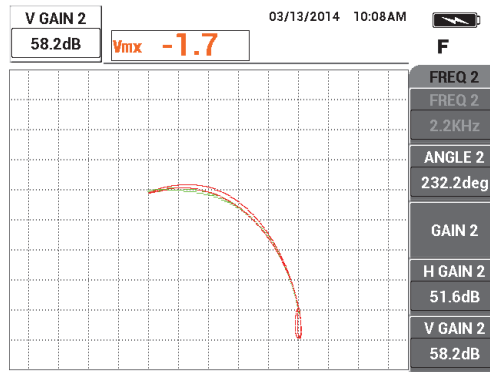

Figure 5-126 Adjusting the vertical amplitude of the frequency 2 signal
- Press the GAIN key (**dB**) again, and then increase the vertical amplitude of the frequency 2 signal (red) until it extends exactly 4 divisions above the null point (see Figure 5-126 on page 216).